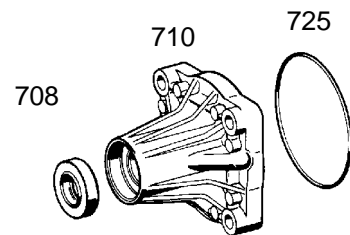

Fig. 17
Press in the shaft sealing ring (708) up to the stop using tool [7] (**Fig. 17**).